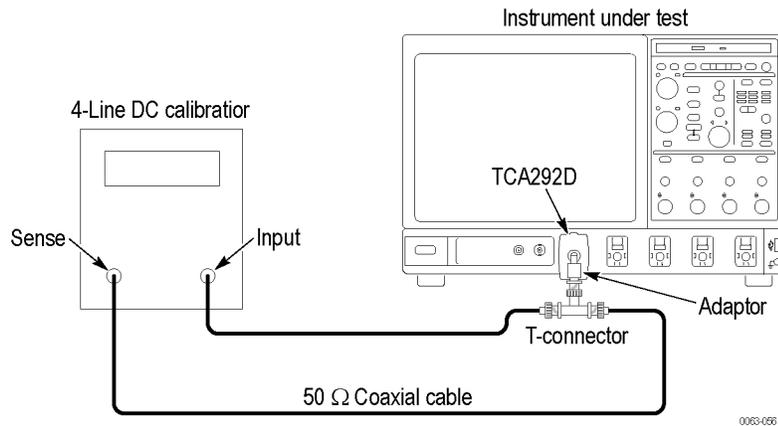

Figure 8: DC voltage accuracy test hookup, MSO/DPO70000DX models
- Connect the output of a DC calibration generator. (See Figure 8 on page 225.)